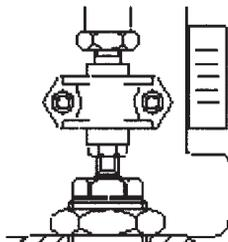

Fig. 3
Fit the valve spindle adaptor (19) onto the valve spindle and push manually the valve plug to its closed position. Adjust the distance of the adaptor (19) from the bonnet shoulder at the value indicated in fig. 3.